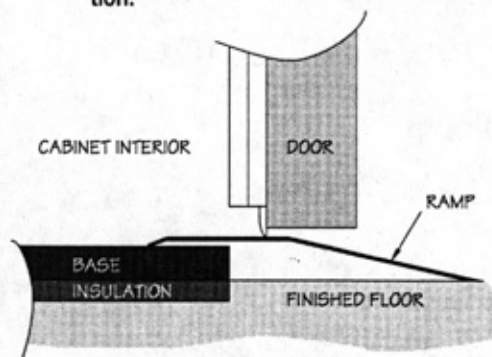

Figure 6-1—Surface mounted installation
- 3 Install ramp(s) as illustrated in Figure 6-1. On refrigerators or freezers, when the ramps are properly installed, heat from the heater wire will be transferred to the ramp to prevent condensation.